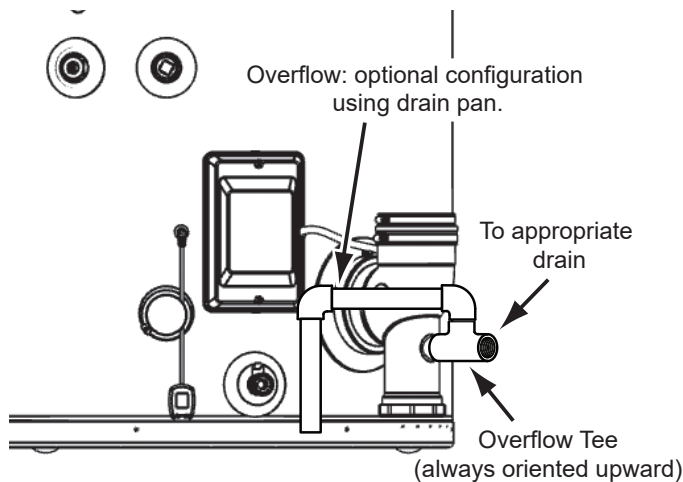

Figure 16. Secondary Condensate Drain
- The overflow tee must be oriented upwards. See *Figure 16*.